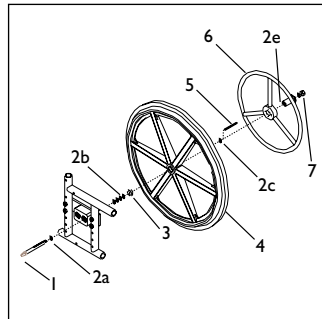

Fig. 7
I. Drive Side Assembly (Fig. 7)
- b. Add one washer (2a) to axle (1).
- d. For Quickie & Zippie Series: Add four washers (2b) to axle. For Breezy Series: Move washers (2c) as spacers for outer handrim (6) and wheel assembly (4). Add or remove washers to adjust spacing.
- e. Add spacer (3) to axle.
- f. Add wheel (4) to axle.
- h. Insert key (5) into keyway on axle (1).
- i. Slide handrim assembly (6) on to axle.
- j. Add washer (2e) and nut (7).